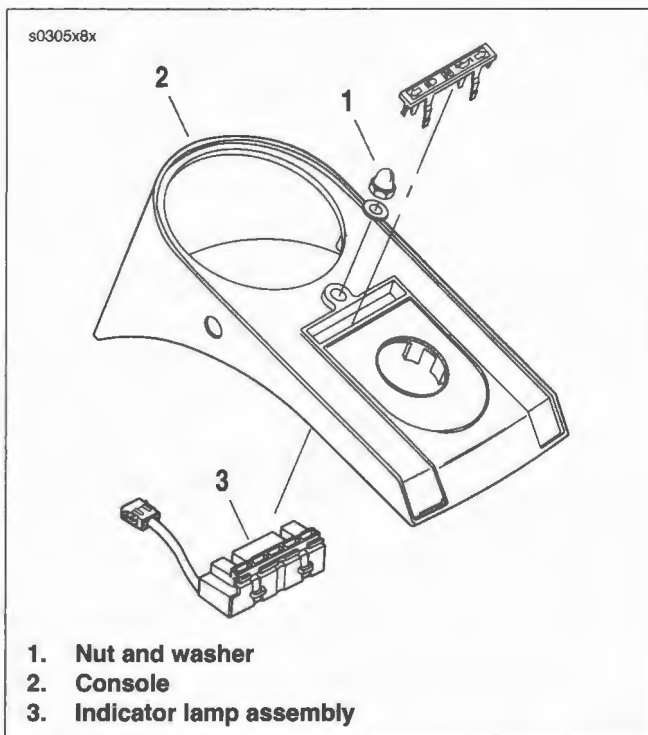
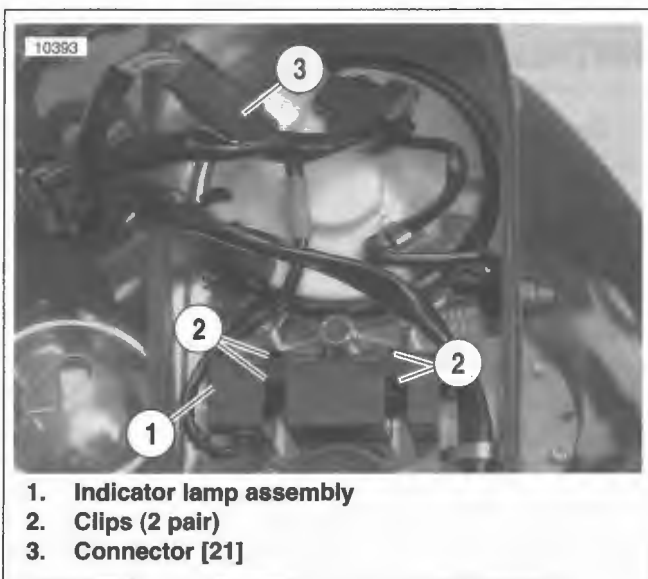

Figure 8-80. Indicator Lamp Assembly: All But FXSTD
Figure 8-81. Connector [21]
1. See Figure 8-80. Remove nut and washer (1). Raise console (2) from fuel tank. Place shop rags on tank and flip console over to expose underside.
2. See Figure 8-81. Squeeze clips together (2) and gently pry indicator lamp assembly (1) out of console from the side with a screwdriver.
3. Disconnect 8-place connector (3) [21] from indicator lamp assembly.
1. See Figure 8-81. Install indicator lamp assembly (1) into console. Make sure clips (2) engage to secure assembly in place.
2. Connect connector (3) [21] to main wiring harness.
3. See Figure 8-80. Place console (2) in position. Install nut and washer (1). Tighten to 14-18 ft-lbs (19.0-24.4 Nm).